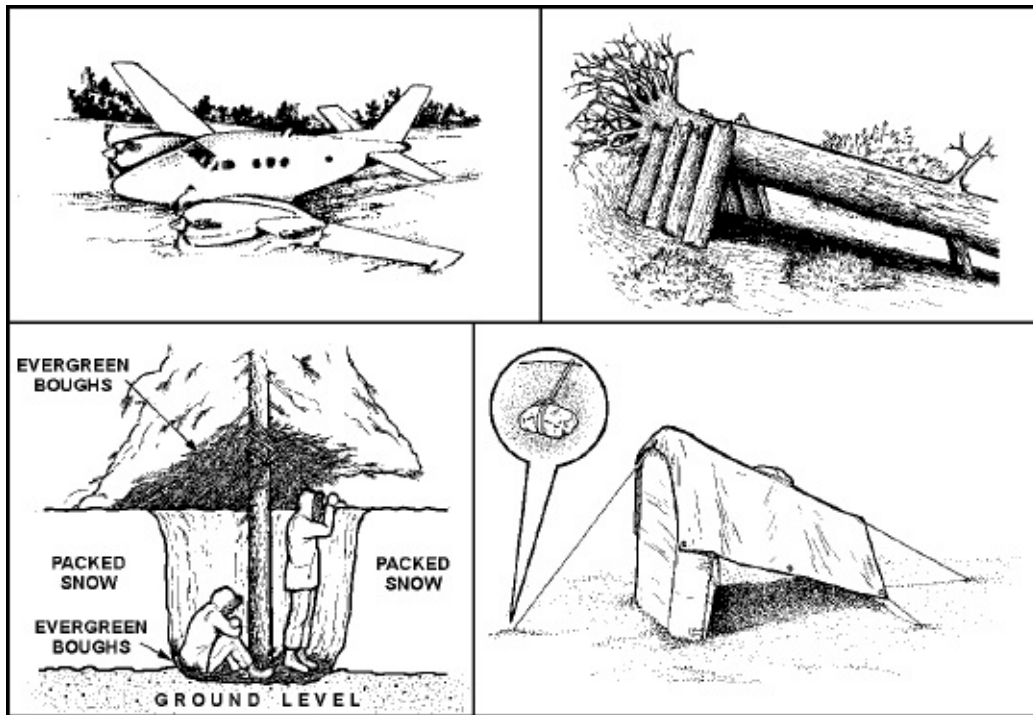
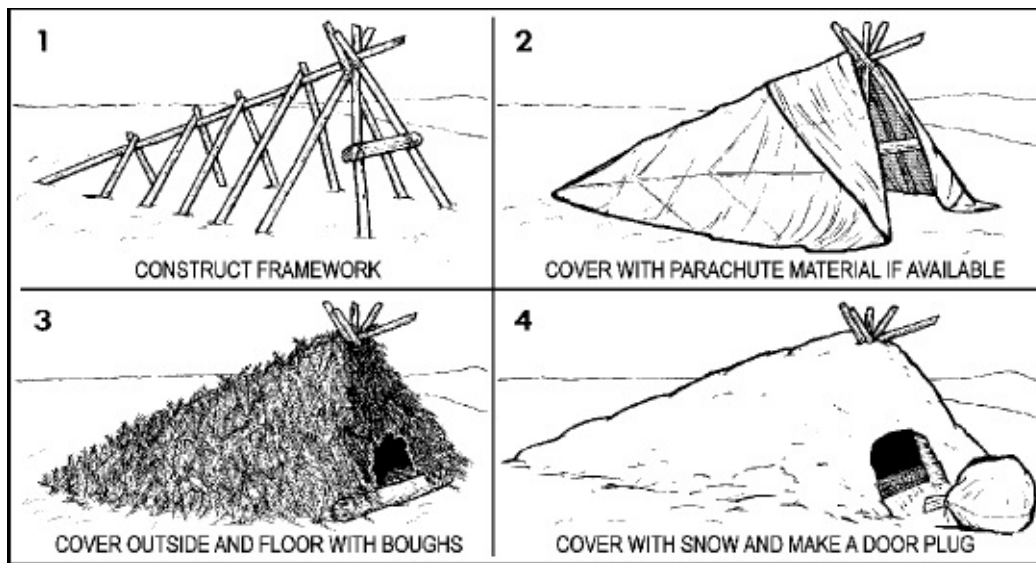

Figure 6-4. Immediate shelters
Figure 6-5. Thermal a frame
- (1) Immediate shelters. Find shelter needing minimal improvements **(Figure 6-4)**.
- (2) General shelter. Temperate climates require any shelter that gives protection from wind and rain.
- (3) Thermal A Frame, Snow Trench, Snow Cave. **(Figures 6-5 through 6-7)**. Cold climates require an enclosed, insulated shelter.